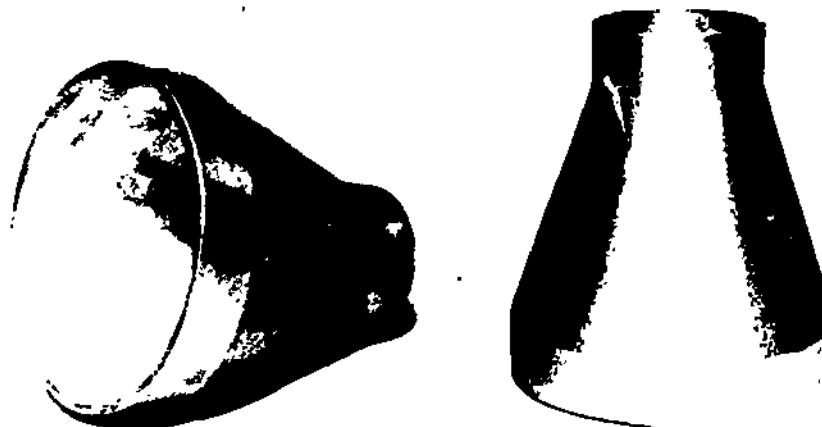

Figure 37-23. Transitional Fitting, at Base of Stack
63. The NPS 8 x NPS 4 IBVS transitional fitting shown in Figure 37-23 is placed at the base of each stack and is designed to aid the entire venting system as well as the building drain.